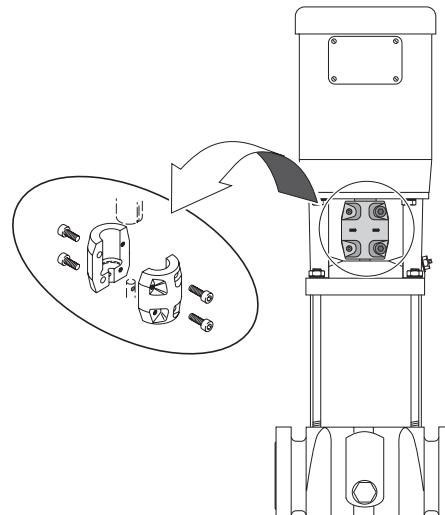

Figure 6 - Remove the Socket Head Screws and the Coupling Halves
3. Remove the coupling guards (54).
4. Remove the socket head screws (73) and the coupling halves (44) from the shaft (81). See Figure 6.
5. If your pump has a shaft pin (72), remove it.